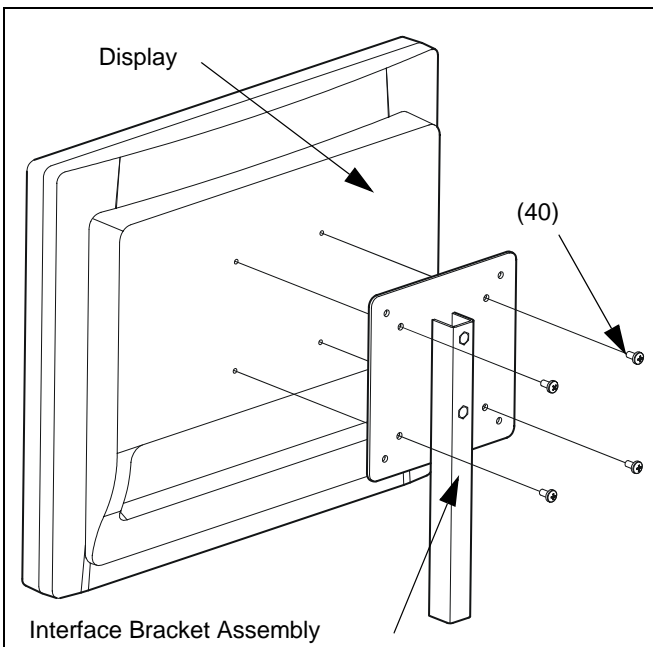

Figure 3: Assemble Interface Bracket to Display
2. Assemble interface bracket assembly to display using four PPMS (40), or four BHSS (50) if security is required. (see Figure 3)